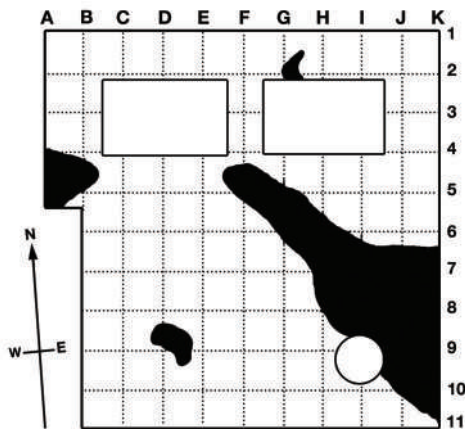

Figure 4. Grid system markings
- Select a convenient grid span i.e. 5ft (1,5m) and on the North/South perimeter, mark 1, 2, 3 etc. while on the East/West perimeter mark A, B, C etc. Transfer these grid systems markings to your roof sketch. (Fig 4)
- Proceed by moving the Dec Scanner along the imaginary line A and mark location on the sketch graph paper and roof surface if desired, when moisture is indicated. N.B In this mock up test, position A4 is the first point of moisture contact (Figure 4).